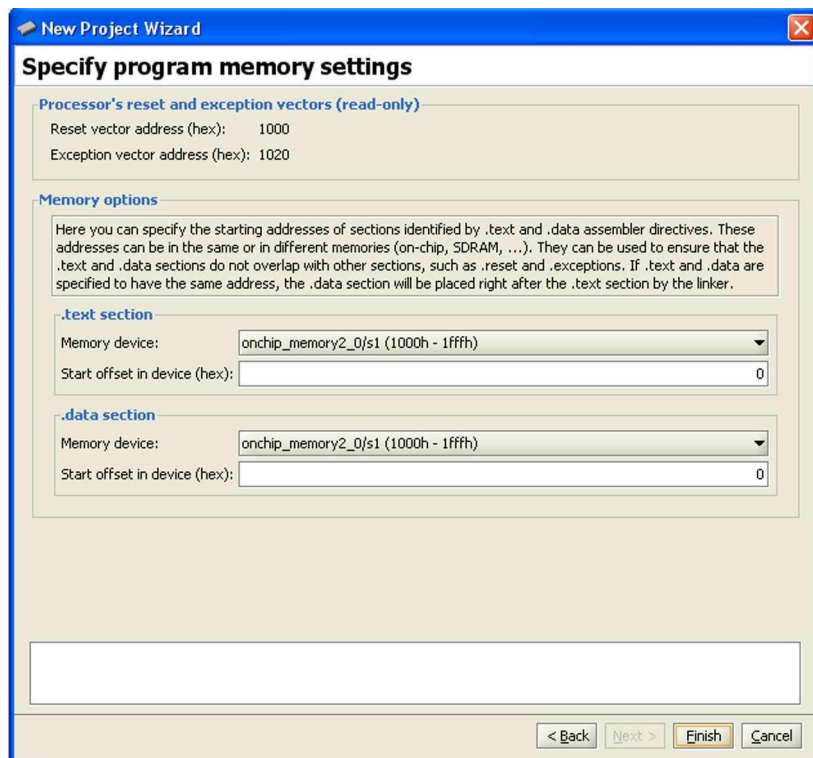

Figure 25. The program memory settings window.
10. The Altera Monitor Program also needs to know where to load the application program. In our case, this is the memory block in the FPGA device. The SOPC Builder assigned the name **onchip\_memory2\_0** to this block. As shown in Figure 25, the Monitor Program has already selected the correct memory device.
An application program written in the C language can be handled in the same way as the assembly-language program. A C program that implements our simple task is given in Figure 25. Enter this code into a file called `lights.c`.